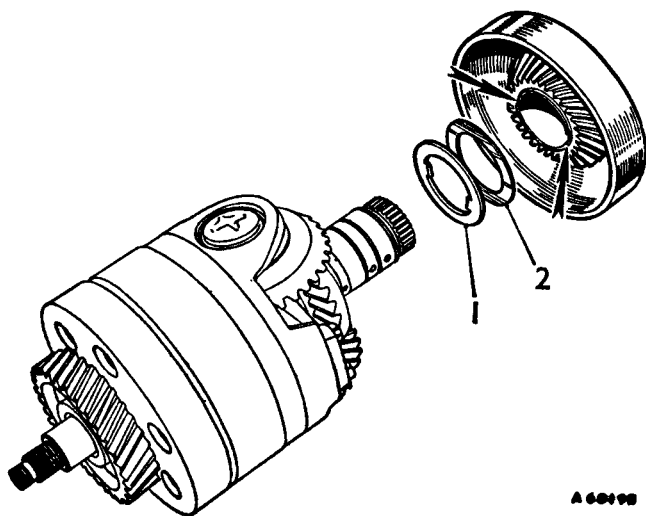

Fig. Fa.46
- 4. Remove the third gear reaction member together with its thrust washer and shim (if fitted) (Fig. Fa.46).